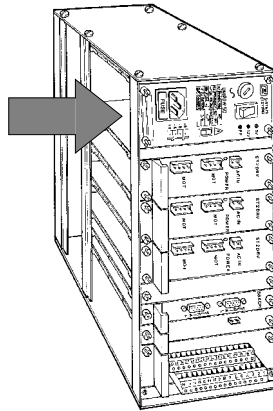

Fig. 49
- Remove the lithium battery from the electronic rack (fig. 49).